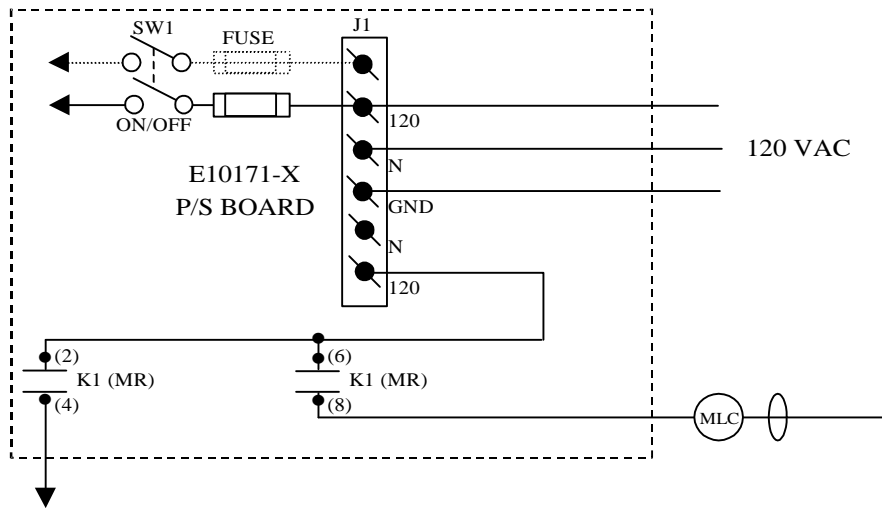
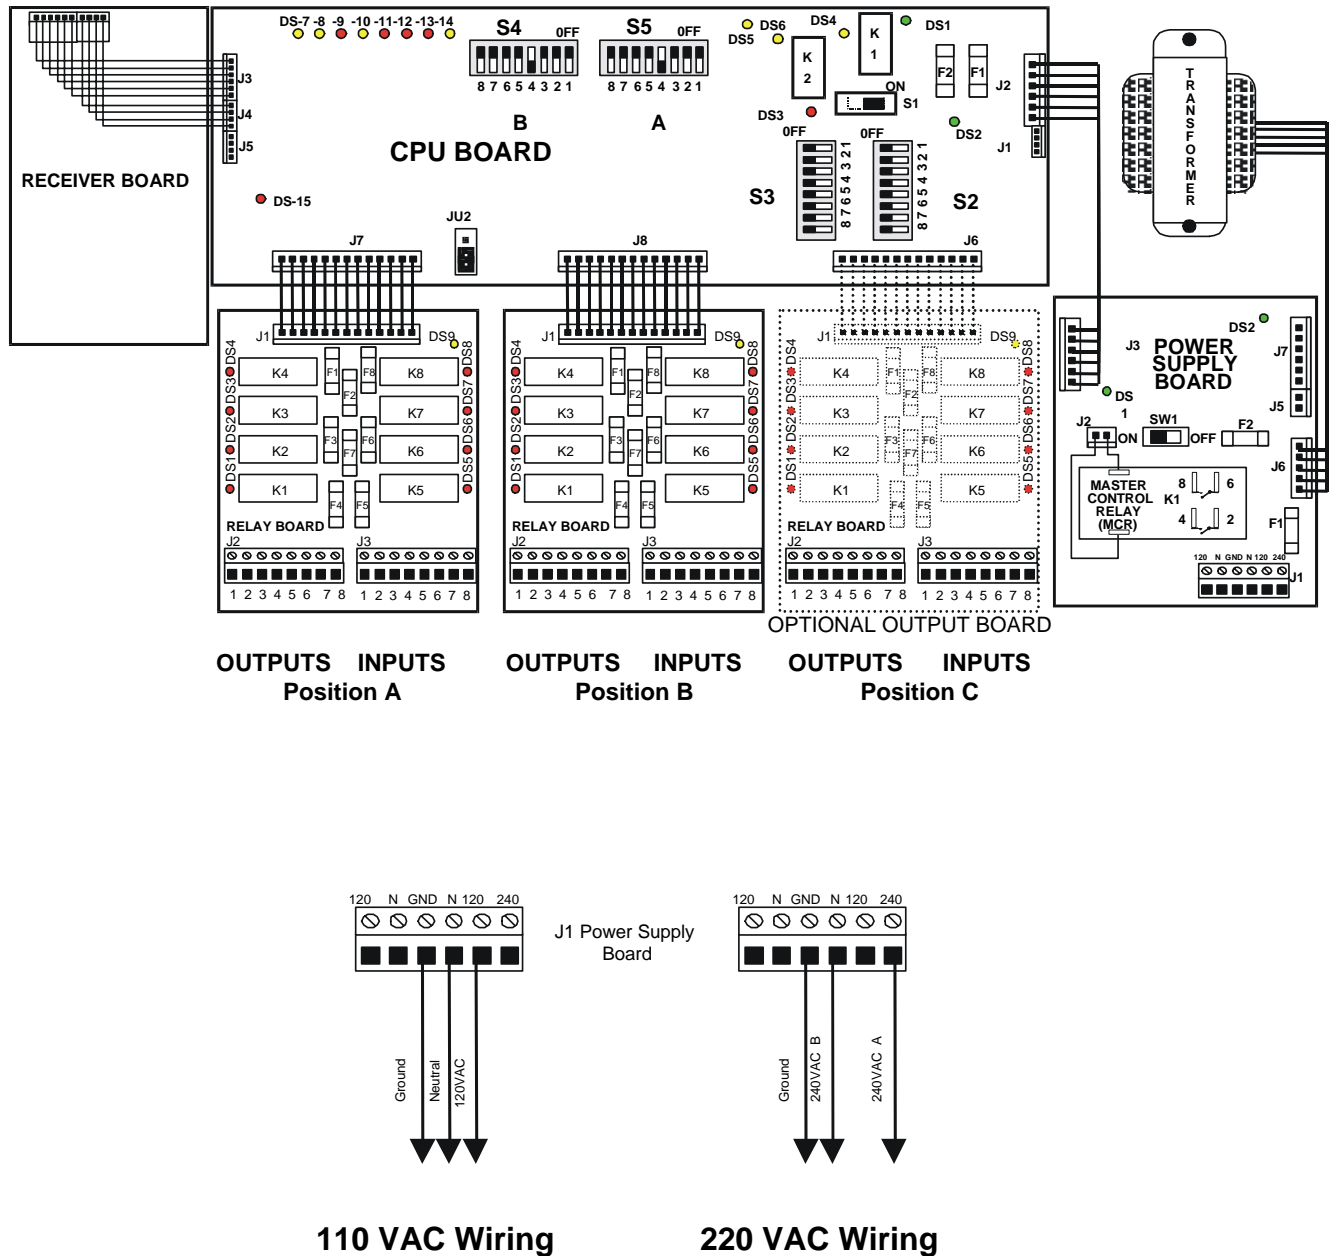

Figure C-1. Optional 120 VAC Wiring
Figure C-2. 10K16 Wiring Layout
Power supply wiring is accomplished through connector J1 on the power supply board. The connections labeled 240, 120, N and GND are wired to the appropriate supply connections per the wiring diagrams. An extra connection 120 is provided for 120 Volt applications only for jumpering to Pins 2 and 6 of the Master Relay (MR) K1 on the power supply board. The unit may optionally be wired as in Figure C-1. Figure C-2 shows the wiring layout for the 10K16 and Figure C-3 shows the wiring layout for the 10K24. All other wiring is accomplished per the attached tables.